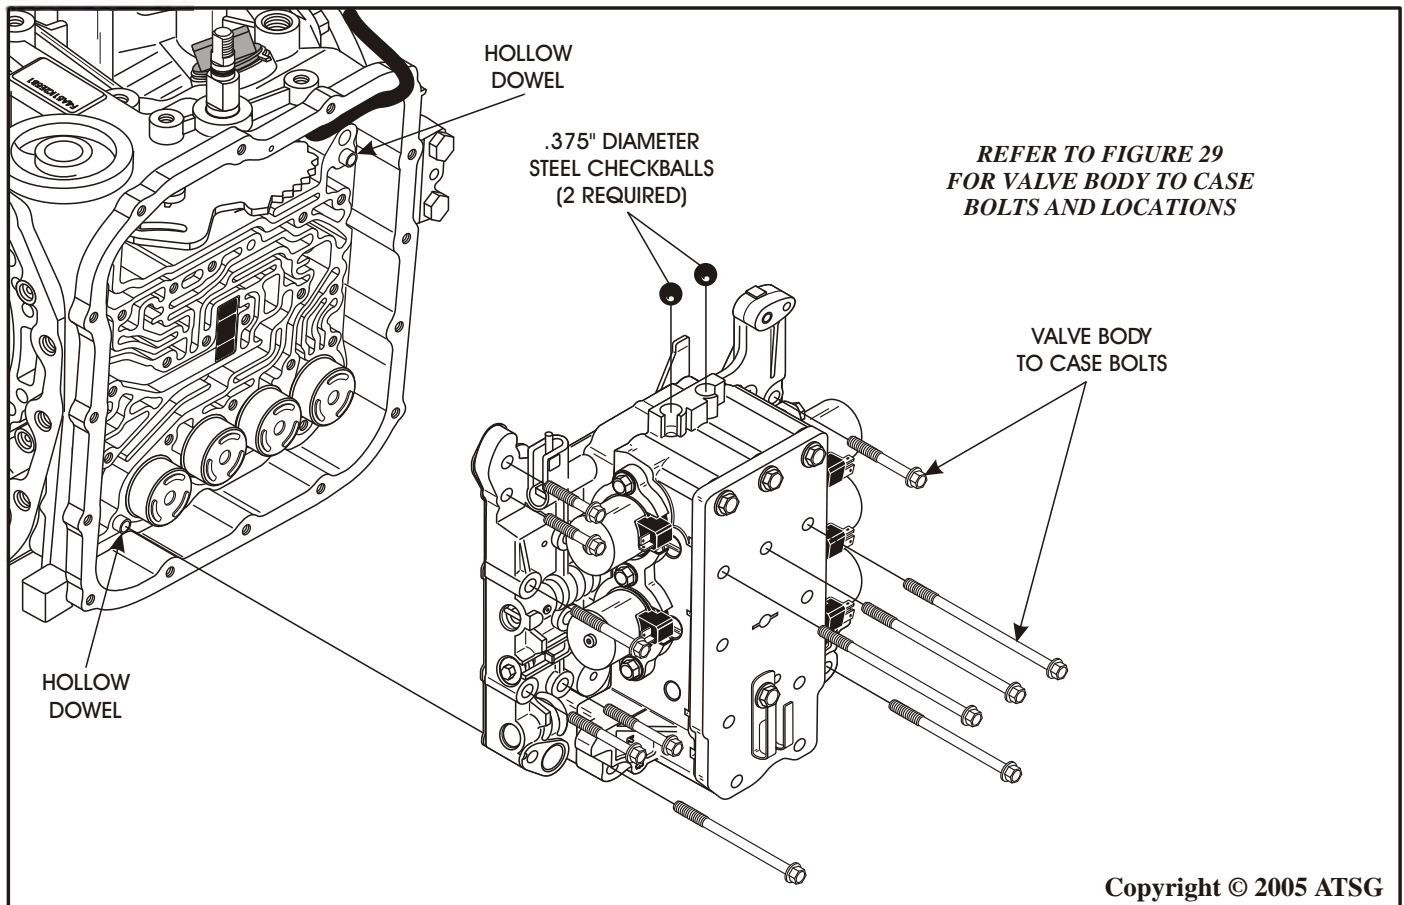

Figure 30
8. Remove the valve body to case bolts and the valve body assembly, as shown in Figure 30.
9. Notice the two steel balls in the top of valve body, as shown in Figure 30.